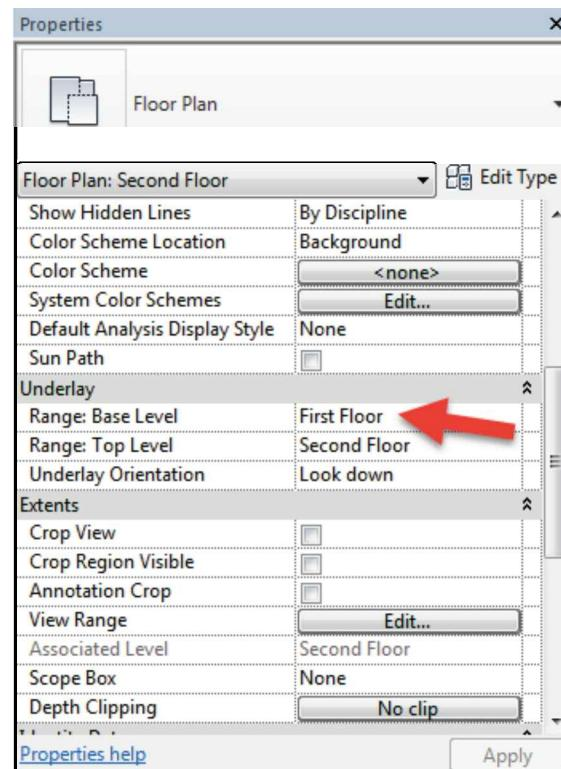

FIGURE 6-1.2 View Properties: Second Floor view
- i. In the *Properties Palette* (View Properties) for the **Second Floor Plan** view, you will see a section labeled *Underlay* (Figure 6-1.2).